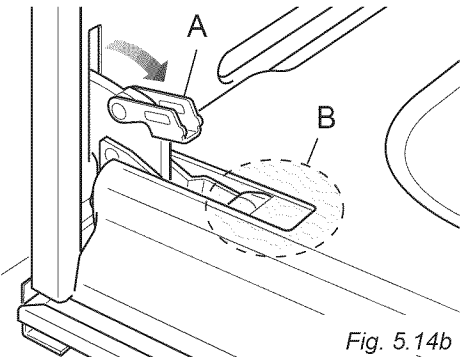
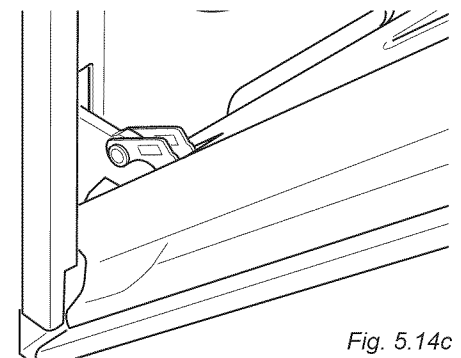

Fig. 5.14b
Fig. 5.14c
- Open the lever "A" completely on the left and right hinges (fig. 5.14b).
- Gently close the door (fig. 5.14c) until left and right hinge levers "A" are hooked to part "B" of the door (fig. 5.14b)